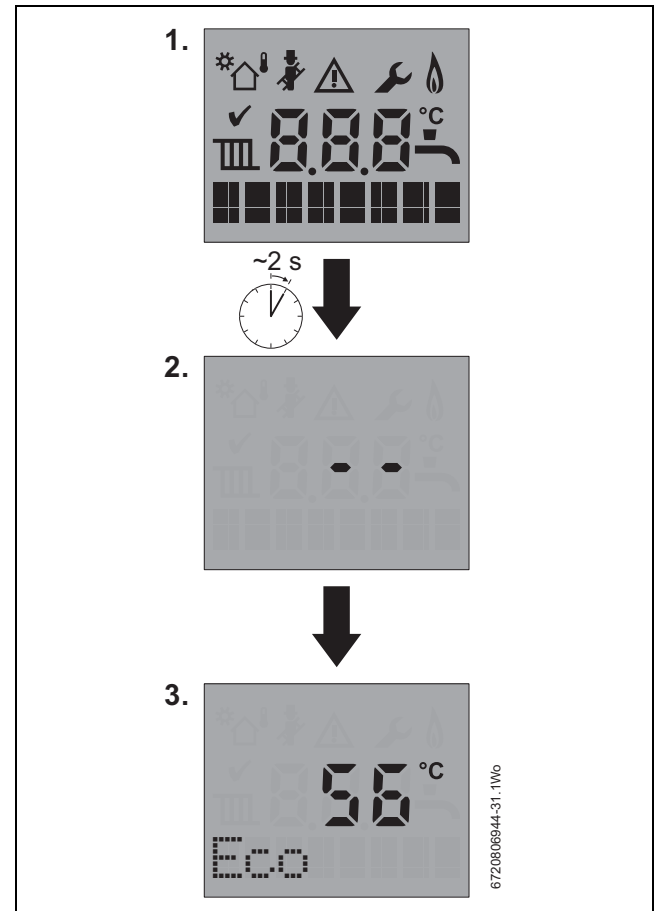

Fig. 48 Appliance start up screen
- ▶ Turn on mains power, initially the “Appliance start up screens” will be displayed (refer to figure 48).